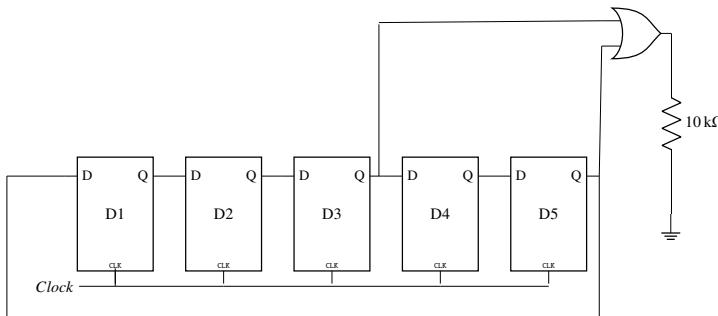

Fig. 5.25
25. Assume that all the digital gates in the circuit shown in Fig. 5.25 are ideal, the resistor  $R=10k\Omega$  and the supply voltages is 5V. The  $D$  flip-flops  $D_1, D_2, D_3, D_4$  and  $D_5$  are initialized with logic values 0, 1, 0, 1, and 0, respectively. The clock has a 30% duty cycle.